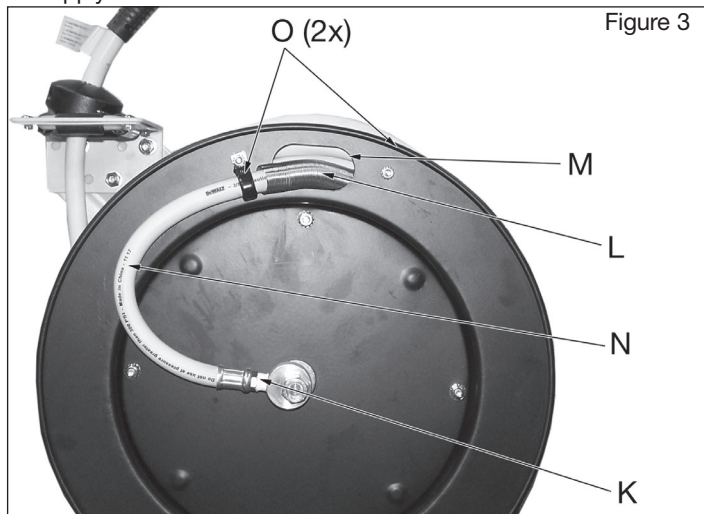

Figure 3
4. Remove the hose clamps (O) and set aside.
5. Carefully disconnect the hose end (K) from the side of the hose reel and remove the old hose.
6. Remove the hose protection spring (L) from the old hose. Place the protection spring (L) on the new hose and then feed the hose through slot on the drum (M).
7. Apply thread seal tape to the hose threads and connect to the hose reel (K) then tighten.
8. Attach the hose to the inside of the drum with the hose clamp. Make sure the hose has a wide curve (N) to it and is not kinked before tightening the hose clamp.
9. Make sure the hose protector spring (L) is in the correct location (reference Figure 3).